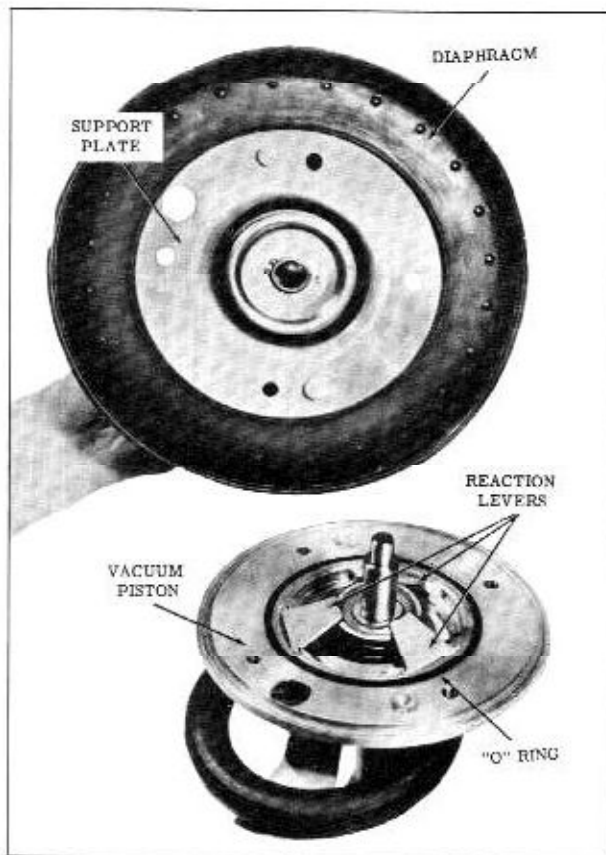

Fig. 7-23 Removing Support Plate From Piston
1. Remove support plate and diaphragm from power piston assembly by removing the four attaching screws and lock washers. Separate diaphragm from support plate. (Fig. 7-23)